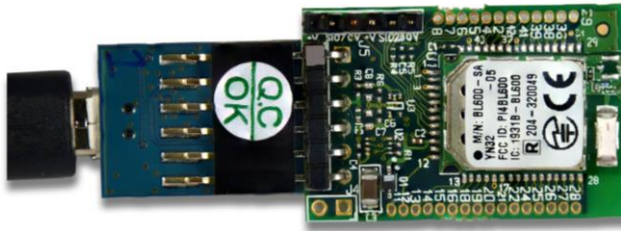

Figure 13: Load smartBASIC application
1. Start by loading a *smartBASIC* application that can run from autoRUN at power up (Figure 13).